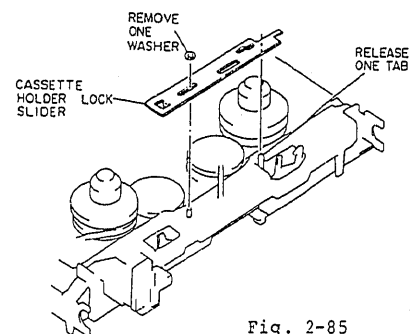

Fig. 2-85
1. Remove one (1) washer and release one (1) tab holding the cassette holder lock slider. (See Fig. 2-85)